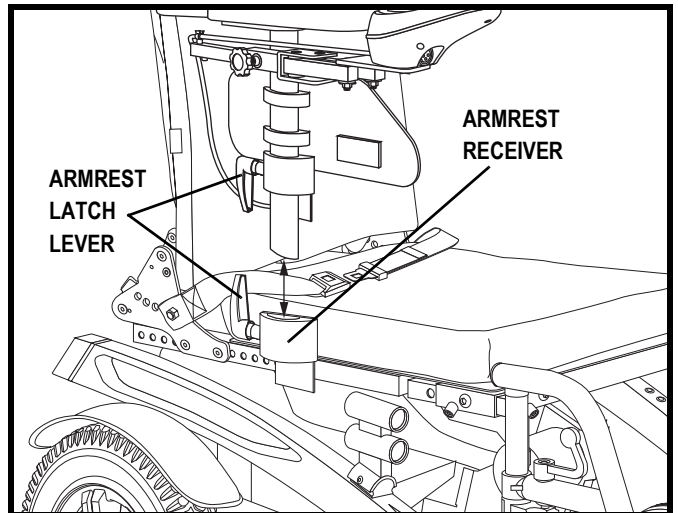

Figure 17. Armrest Removal/Installation
1. Loosen the armrest latch lever by pushing the armrest latch lever in and rotating the lever simultaneously. **See figure 17.**
1. Place the armrest assembly into the armrest receiver. **See figure 17.**
1. Loosen the armrest latch lever. **See figure 17.**
2. Remove the armrest. **See figure 17.**